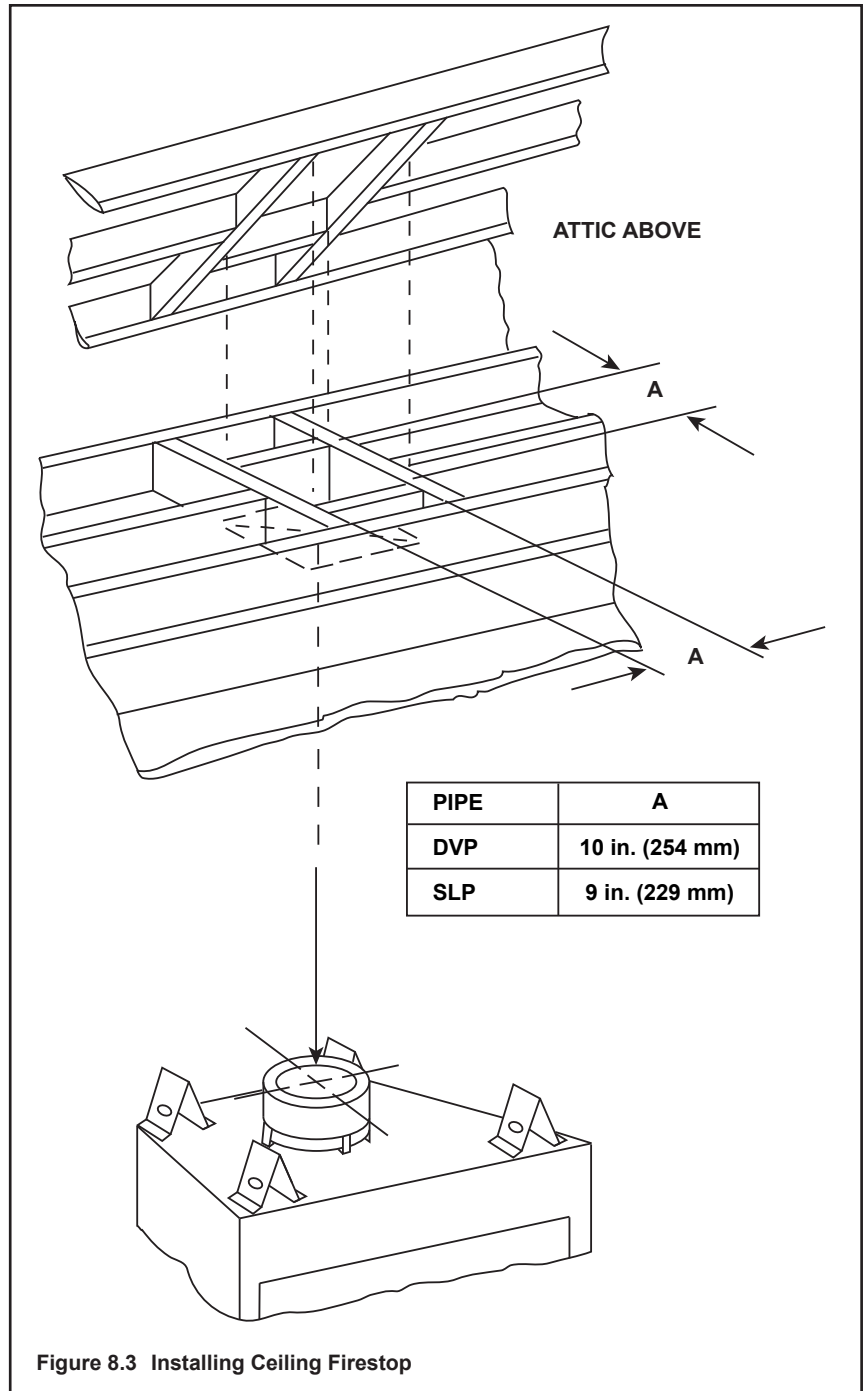

Figure 8.3 Installing Ceiling Firestop
- **DVP pipe only** - Frame an opening 10 in. x 10 in. (254 mm by 254 mm) whenever the vent penetrates a ceiling/floor (see Figure 8.3).
- **SLP pipe only** - Frame opening 9 in. x 9 in. (229 mm x 229 mm) whenever the vent penetrates a ceiling/floor (see Figure 8.3).